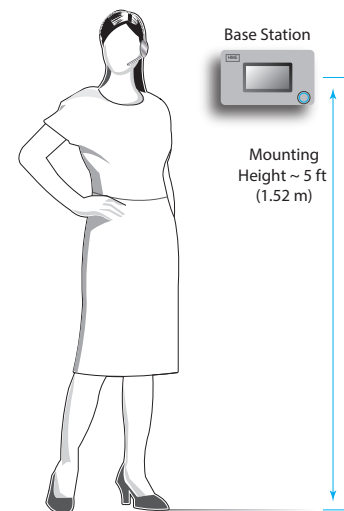

Fig. 2.1
2. Mount the Base Station at a height that allows the touchscreen to remain visible and within comfortable reach for normal operation. The recommended mounting height is 5 ft. (1.52 m) from the floor (see Fig. 2.1).